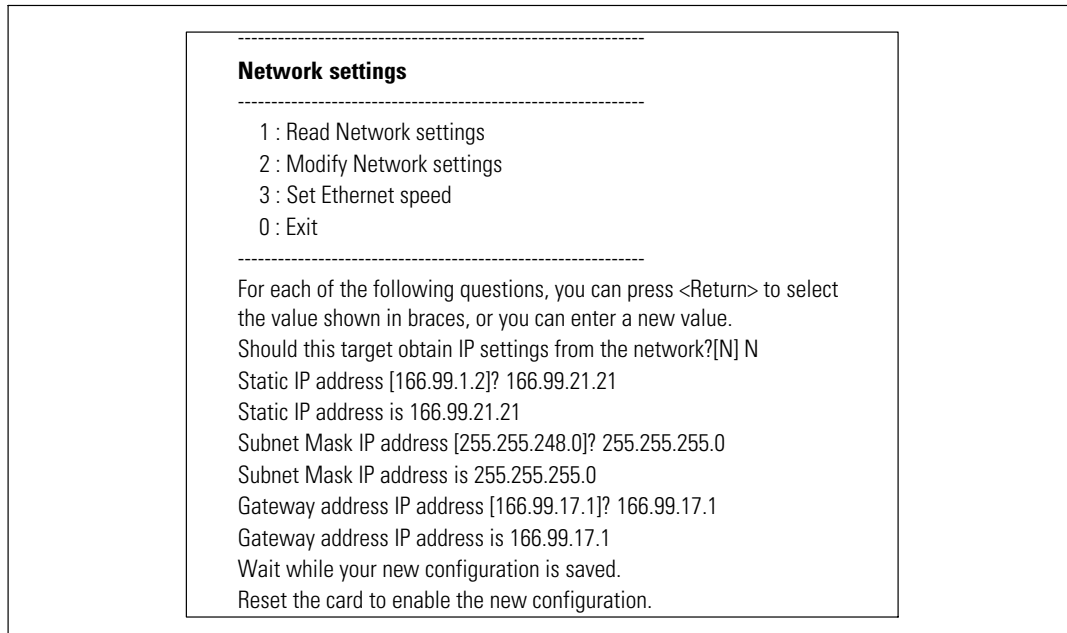

Figure 11. Modifying the Network Settings
- 1 From the main menu, type 2 and press **Enter**. Type 2 and press **Enter** again to modify the network settings. The Network Settings menu displays (see Figure 11).